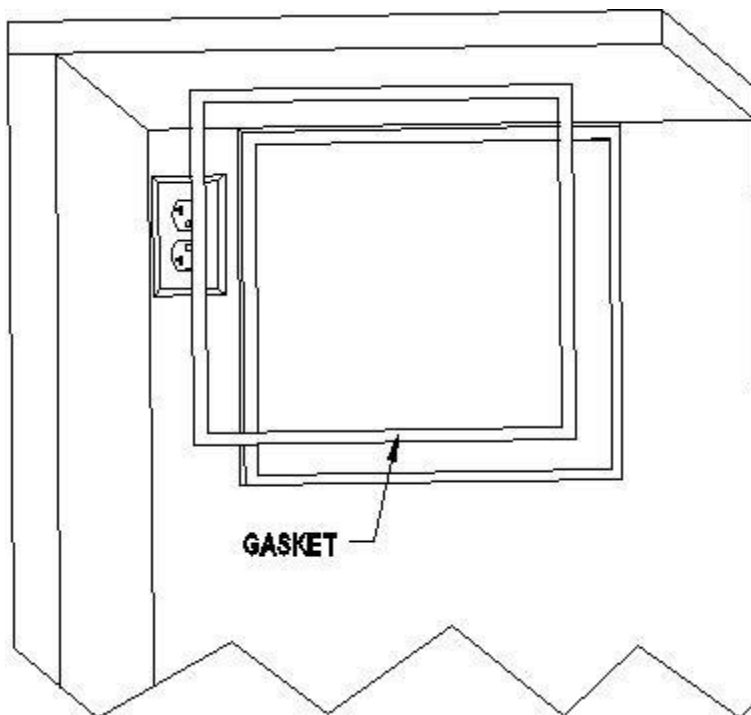

Fig. 2.3 REAR GASKET
- Place the gaskets (1/2" foam tape) on the mounting lip sides (see Fig 2.3).